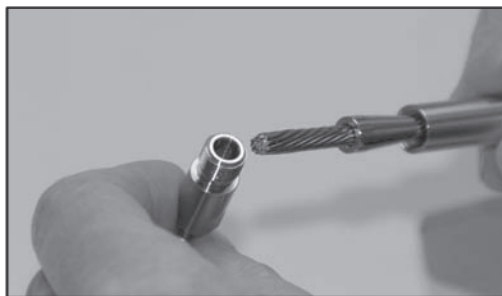
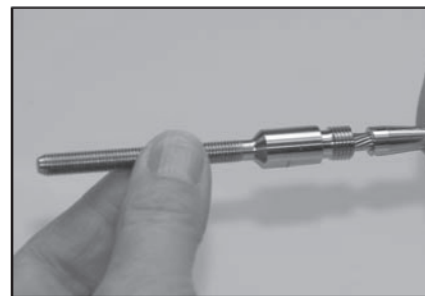

Figure 5
Figure 6
- Step 4 – Using the hole in the “End Fitting” as a depth guide (See figure 5), place the end fitting over the cable end until it bottoms out. See figure 6.